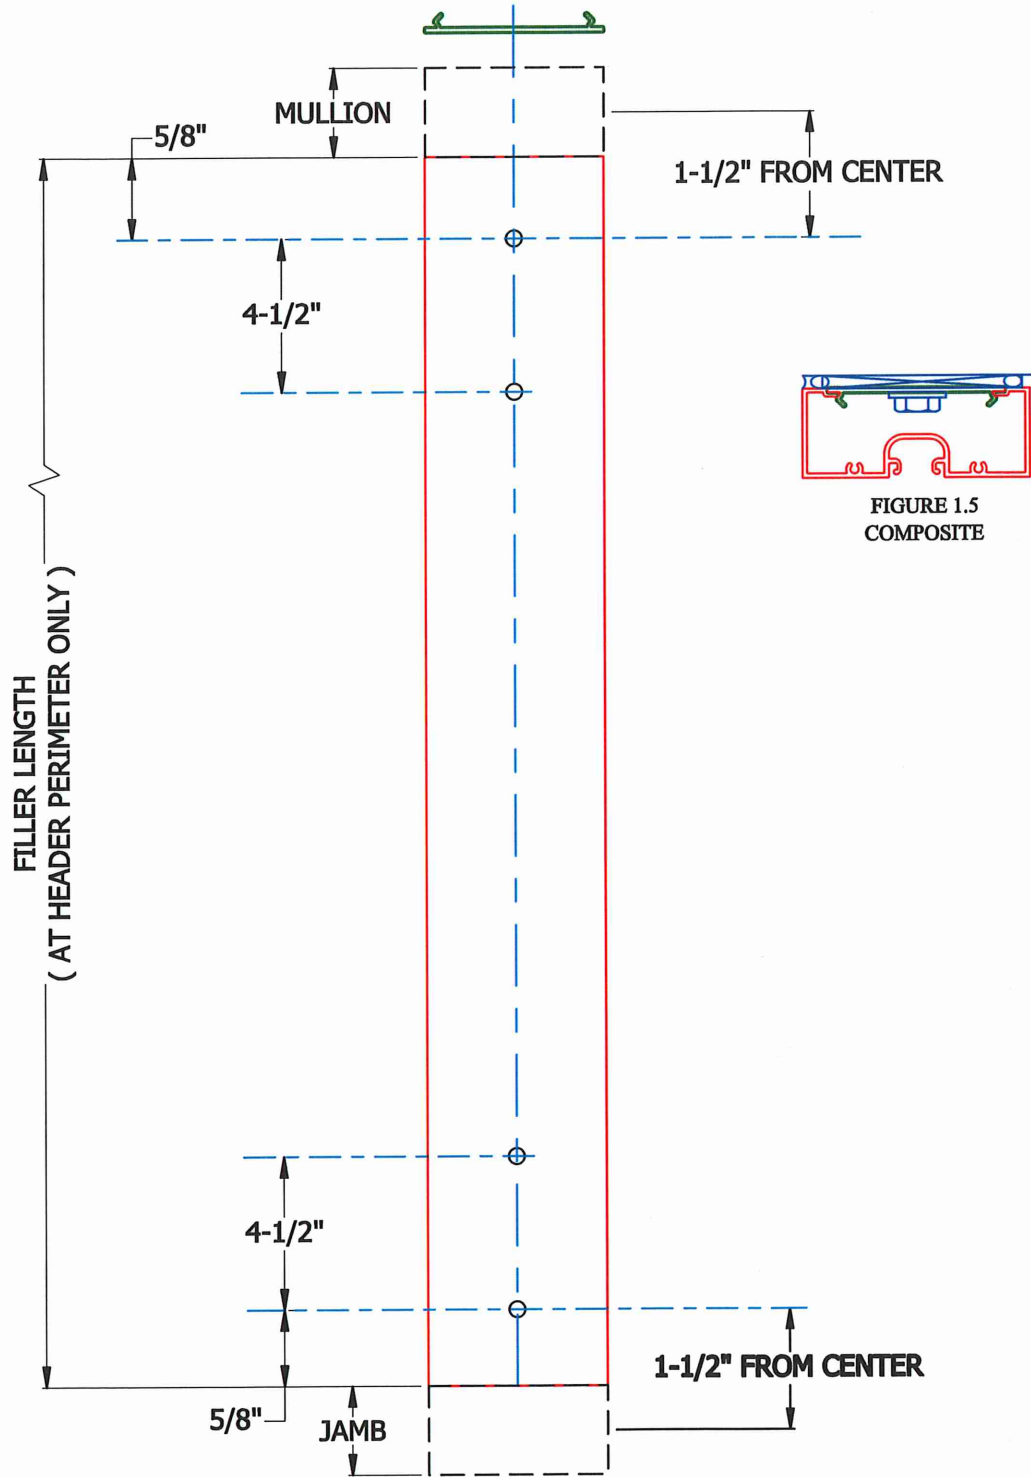

FIGURE 1.4
1.5 Offset 1st anchor hole location at 1-1/2" center from ends, 2nd hole location at 4-1/2" center from first hole location. SEE FIGURE 1.4